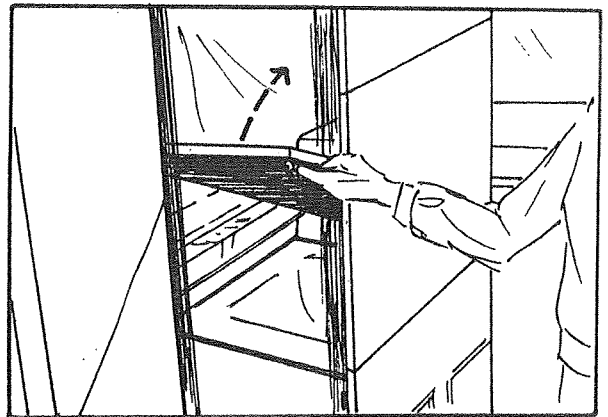

FIGURE 19
25. Reach inside the door opening and raise the front wall section to full vertical height. See Figure 19. As you are raising the wall, step inside the bathroom area.